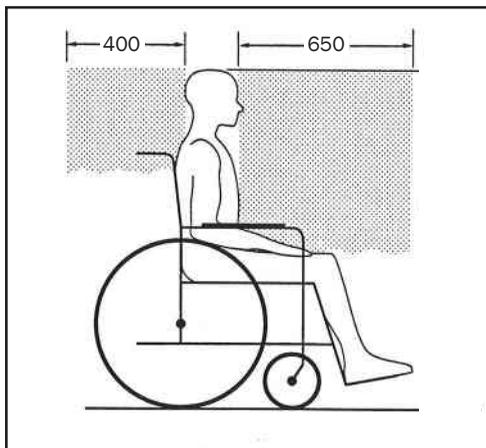

Fig. 126 Side View
**WARNING:** Adequate clear zones are required for occupants restrained by both upper and lower-torso belt restraints. See Figs. 126 & 127.
Position the wheelchair aboard the motor vehicle to ensure sufficient clear space in front of, and behind, the occupant. (See Figs. 126 & 127) If there are any hard or sharp objects or components near the wheelchair, such as components of lifts or fold-up seats, they must be covered with heavy-duty energy-absorbing padding to ensure the safety of the wheelchair occupant and other passengers.